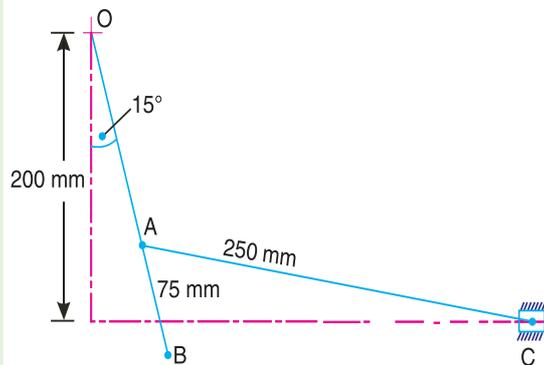

Fig. 7.35
5. The oscillating link  $OAB$  of a mechanism, as shown in Fig. 7.35, is pivoted at  $O$  and is moving at 90 r.p.m. anticlockwise. If  $OA = 150$  mm ;  $AB = 75$  mm, and  $AC = 250$  mm, calculate